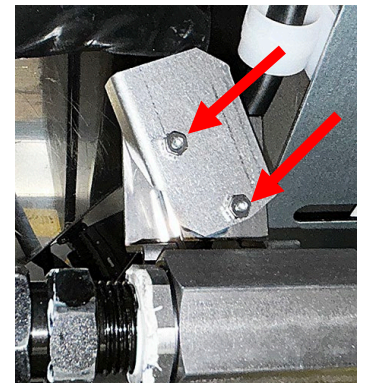

Figure 13
20. Remove the two (2) nuts attaching the return switch cover under the second (2nd) vat. The switch is located under the rear side of the vat attached to the return valve (see Figure 13).